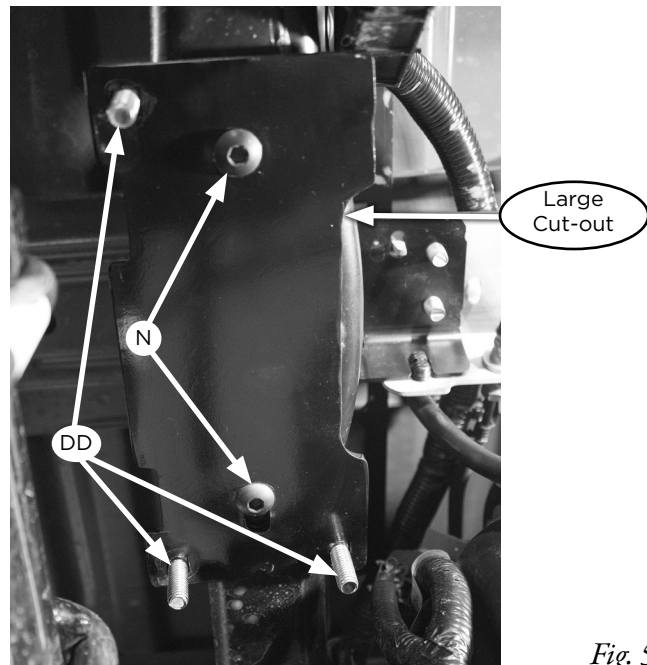

Fig. 5
4. Insert the 3/8"-16 x 1" carriage bolts (DD) into the upper frame bracket (D). Install the upper frame bracket onto the frame using the M10-1.5 x 35mm button-head cap screws (N) so that the large cut-out on the side of the bracket is inboard of the frame rail and the slotted hole in the center is forward (Fig. 5). Torque hardware to 38 lb.-ft. (52Nm).